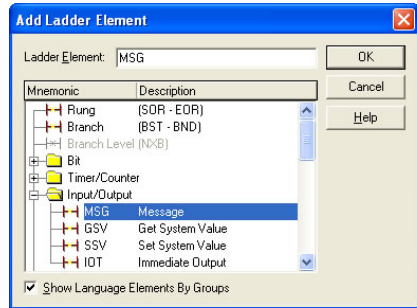

Figure 85: Adding a MSG Instruction
- d) Select the “MSG” instruction in the Input/Output folder. Refer to Figure 85.